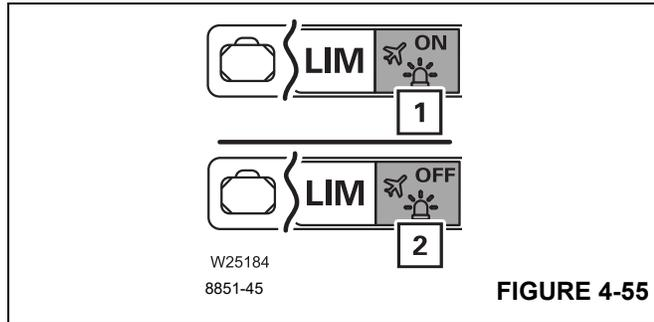

FIGURE 4-55
To Enable:	Select symbol (1), (Figure 4-55) and confirm – symbol ON is displayed
To Disable:	Select symbol (2), (Figure 4-55) and confirm – symbol OFF is displayed